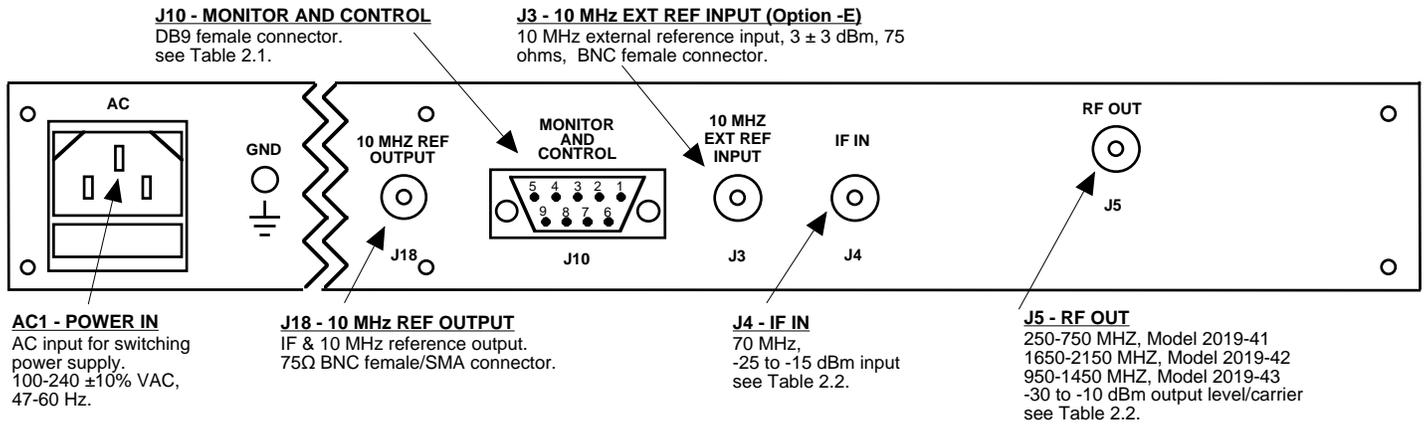

FIGURE 2.1 2019-4x Rear Panel I/O's
2.2 Rear Panel Input/Output Signals - Figure 2.1 shows the input and output connectors on the rear panel.
1. Connect a -25 dBm to -15 dBm signal to IF In, J4 (Figure 2.1)